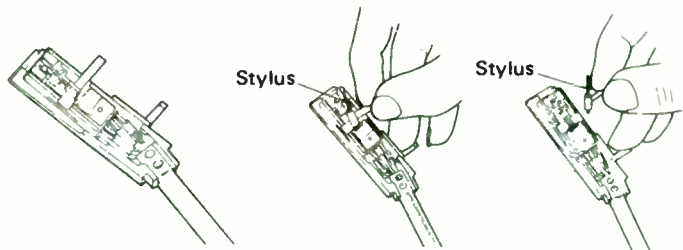

Fig. 45 REPLACING STYLUS
2. Gently remove Stylus and place new Stylus in to correct position as shown Fig. 45.